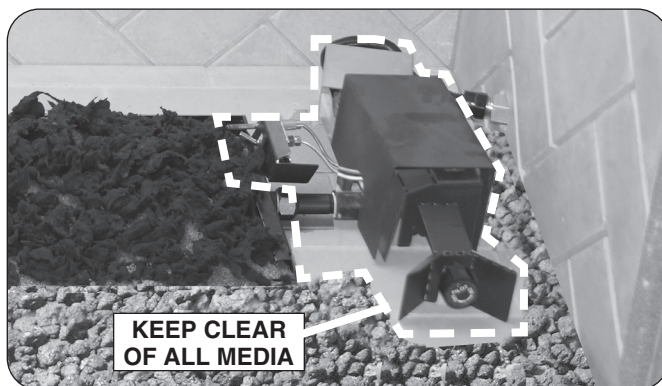

Fig. 19-4 Keep pilot, valve, & shield(s) clear
KEEP LAVA GRANULES/COALS, SAND/VERMICULITE, EMBERS, AND ALL FOREIGN OBJECTS AWAY FROM THE PILOT ASSEMBLY, VALVE ASSEMBLY, AND HEAT SHIELD(S) DURING MEDIA PLACEMENT AND AT ALLTIMES. SEE FIG. 19-4.